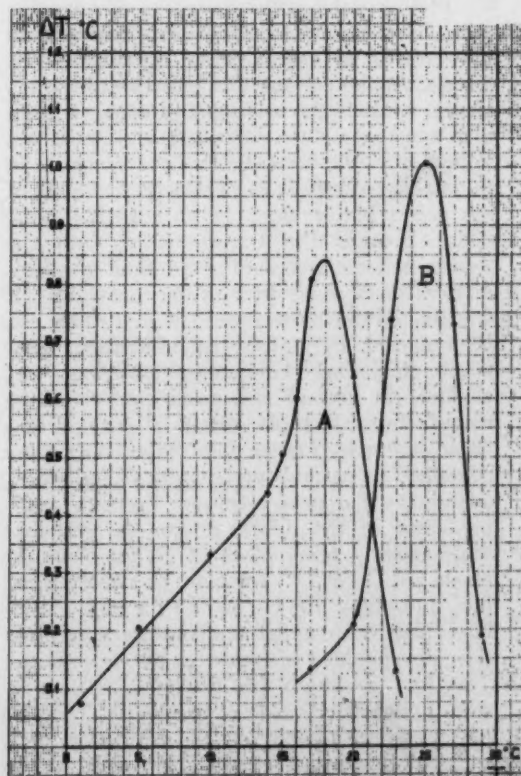

Fig. 18. Temperature rise above surroundings, due to a β transformation, for (A) Cacao butter (B) Borneo tallow.
transformation, but mostly by the $\alpha \rightarrow \beta'$ transformation. Fig. 18 shows the curve representing these temperature differences for a 2 g sample of cacao butter (A), compared with a similar curve for a sample of Borneo tallow (B). For the cacao butter, the temperature difference and consequently the heat evolved increases to a maximum at 18° C (64.5° F) after which it falls off rapidly to zero at a temperature of about 24° C (75° F) corresponding to the mid-melting point of the β' -form. The maximum for the Borneo tallow lies about 7° C (12.5° F) higher, as might have been expected from its higher melting range. For the α -form also, the rate of nuclei-formation increases with decreasing temperature in the range from 14° C (57° F) to -15° C (5° F) while the growth rate appears to increase when the temperature is increased. Both are naturally extremely fast as compared to the similar rates for the β' -form, which itself crystallizes much faster than the β -form. This is still more true of the γ -form which crystallizes in a few seconds at the most. As this is the least stable form it always crystallizes from the melt and the rate of nucleation can be determined from the curve representing the time elapsed between cooling to a given temperature (in a fine capillary) and incipient crystallization, as a function of temperature. We have determined such curves for many samples of cacao butter and mixtures with other fats (43). The curve representing the inverse of these crystallization delays is in fact a so-called Tammann curve, which gives the relative nuclei-formation rate in